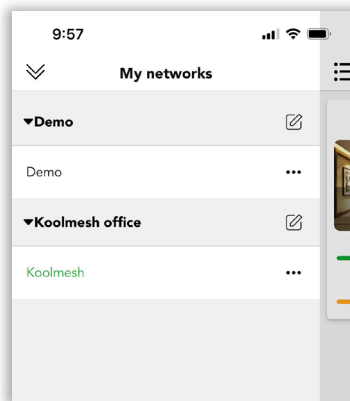

Figure 3.6 My networks
1. Click  to change the name of the project in “My networks” (see figure 3.6)
2. Click  for network management and modify owning projects and delete the network (see figure 3.6).